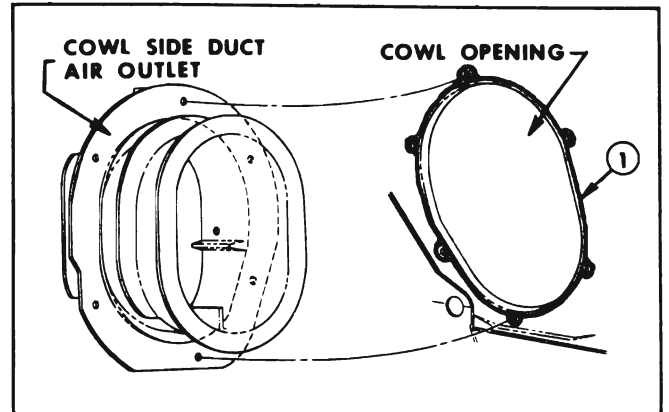

Figure 13-26—Cowl Side Duck Air Outlet Sealing
3. To install, apply a bead of medium-bodied sealer to shroud panel at areas indicated by #1 in Figure 13-26 and reverse removal procedure.